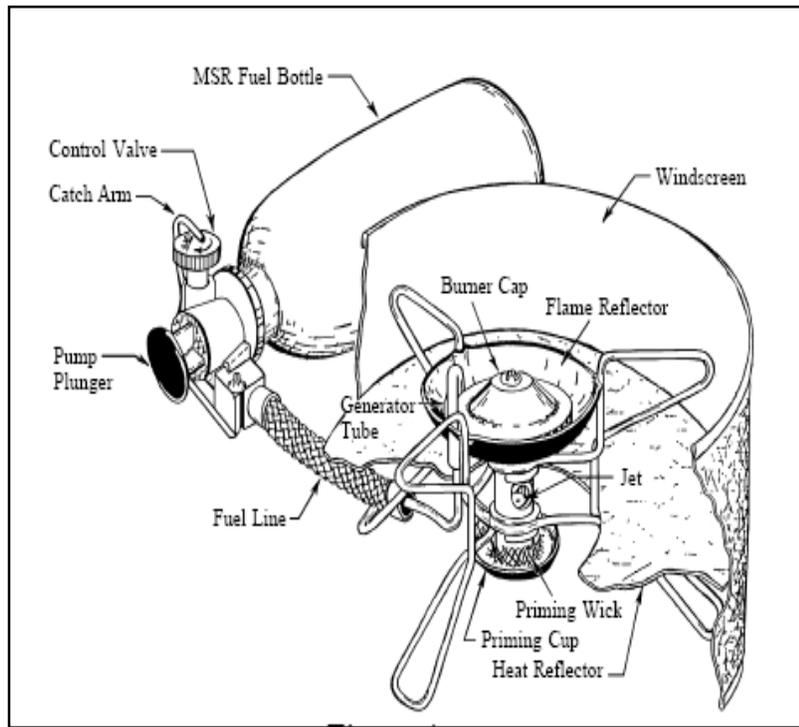

Figure 1
a. As with any stove that burns fossil fuels, you must be wary of the possibility of carbon monoxide poisoning, especially when such stoves are used in small relatively airtight shelters such as snow caves or thermal shelters. Virtually all of your cooking and snow-melting tasks are accomplished using the squad stove, and one stove is adequate for the needs of from two to five soldiers. It is ideal for opening in forward or remote areas where heavy/bulky equipment could be an impediment. The squad stove is small, compact, light, and will operate on either white gas, MOGAS or kerosene. See Figure 1